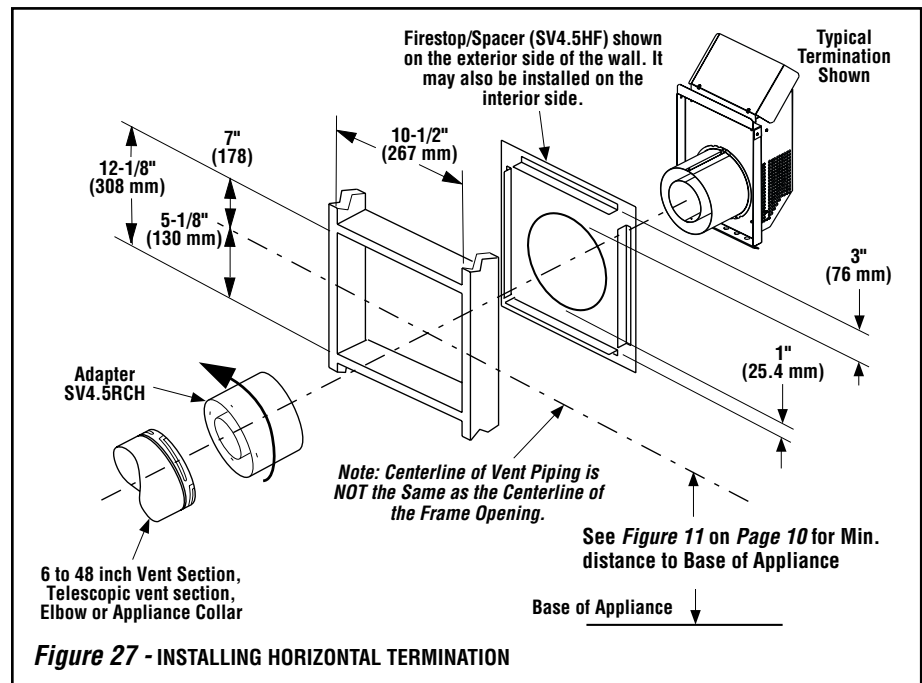

Figure 27 - INSTALLING HORIZONTAL TERMINATION
Figure 26 on Page 18, and Figures 27 to 32 on Pages 19 through 22 and their associated Horizontal Vent Table which illustrate the various horizontal venting configurations that are possible for use with these appliances. Secure Vent™ pipe applications are shown in these Figures; Secure Flex™ pipe may also be used. A Horizontal Vent Table summarizes each system's minimum and maximum vertical and horizontal length values that can be used to design and install the vent components in a variety of applications.
K. Attach termination adapter - Attach the adapter (adapter - SV4.5RCH - provided with the termination) to the vent section or telescoping vent section, elbow or appliance collar as shown in **Figure 27** in the same manner as any SV4.5 vent component (refer to **Step E**).
L. Install Firestop/Spacer at exterior wall - When using the termination, install SV4.5HF (**Secure Vent™**), SF4.5HF (**Secure Flex™**) Firestop/Spacer over the opening at the exterior side of the framing, long side up, with the 3 inch spacer clearance at the top as shown in **Figure 27**, and nail into place.